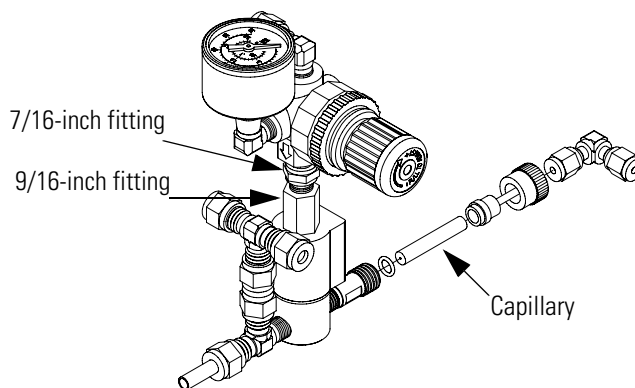

Figure 7-16. Replacing the Pressure Regulator
Use the following procedure to replace the pressure regulator (Figure 7-16).
3. Remove fitting from bottom of the pressure regulator by holding the assembly in place with a 9/16-inch wrench as shown in Figure 7-16 and loosening the pressure regulator fitting.